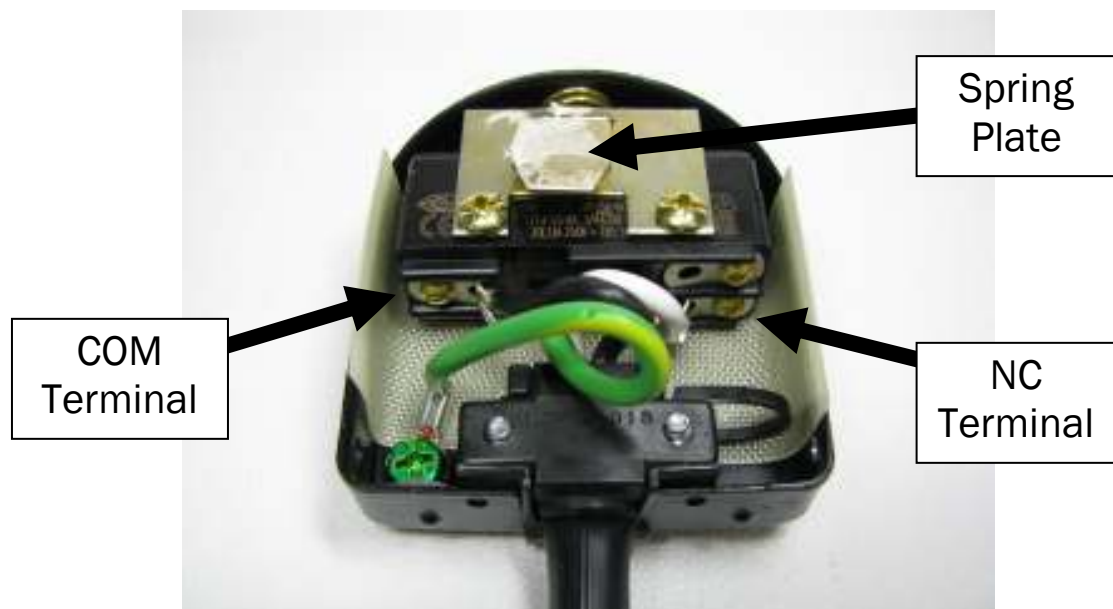

Figure 28
4. Use a flat or Phillips screwdriver to remove the two screws on the sides of the pedal and remove the top. **See fig. 28.**